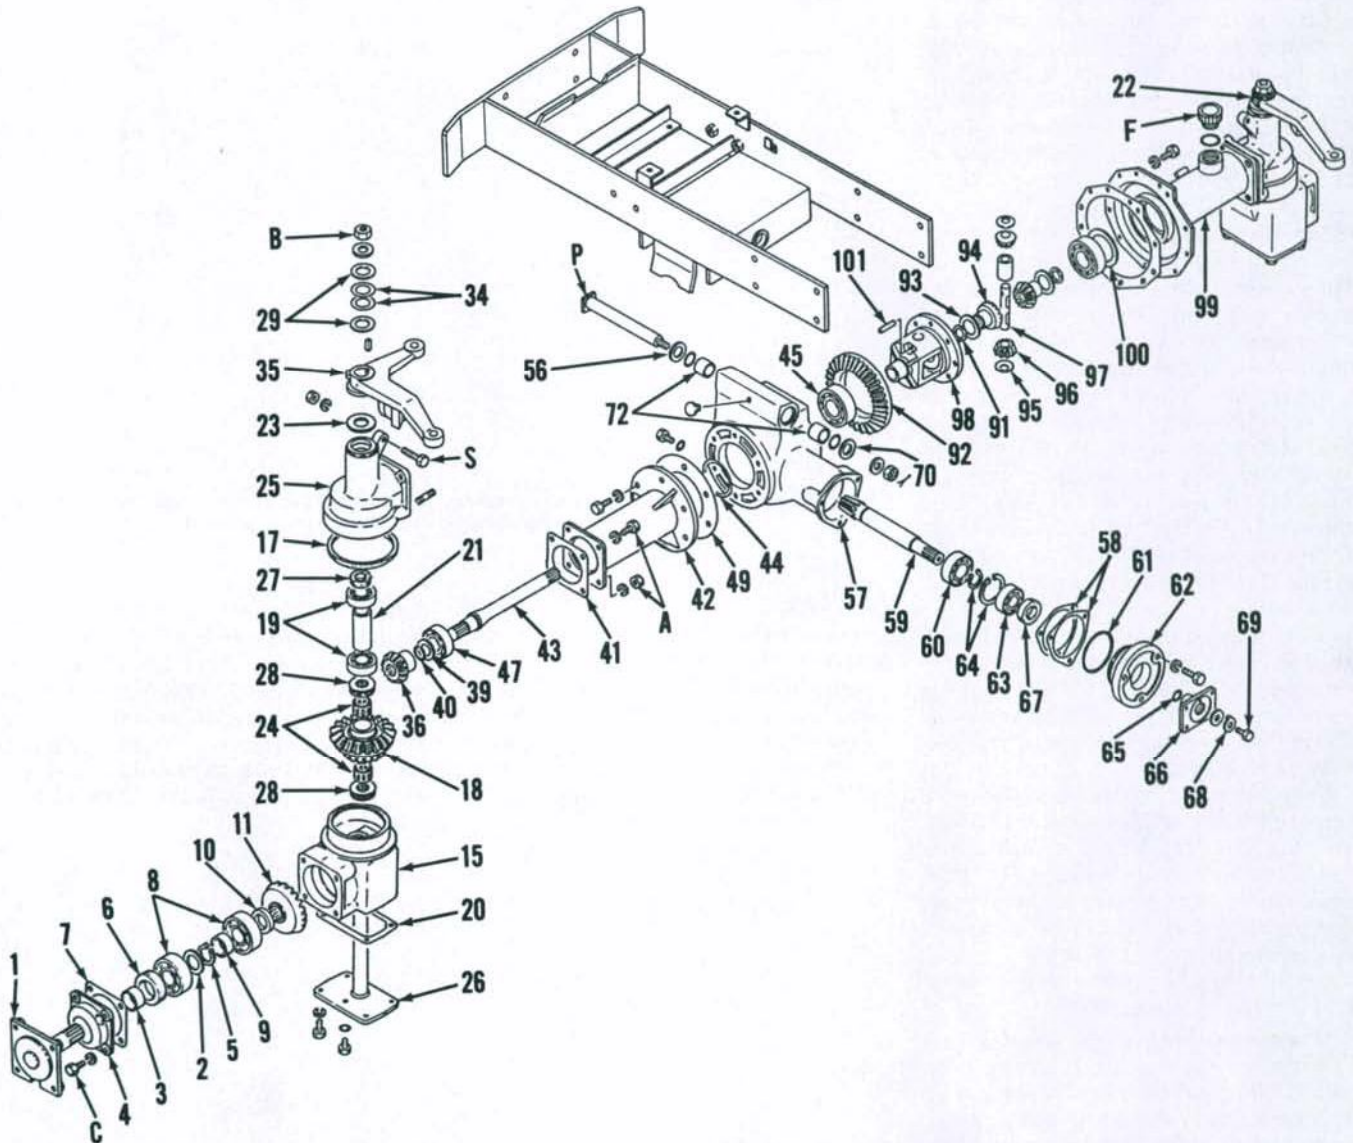

Fig. 17—Exploded view of the complete axle housing used on late YM135D and YM155D models. Early models are similar.
Fig. 16—Exploded view of outer drive housing used on late YM135D and YM155D models. Early models are similar. Inner bearing (8) is 6305 on early models. Refer to Fig. 17 for legend.
(99—Fig. 17) from center housing (57), then remove differential. Left axle housing can be unbolted and separated from center housing if desired. Unbolt and remove pinion and carrier (62) from center housing.